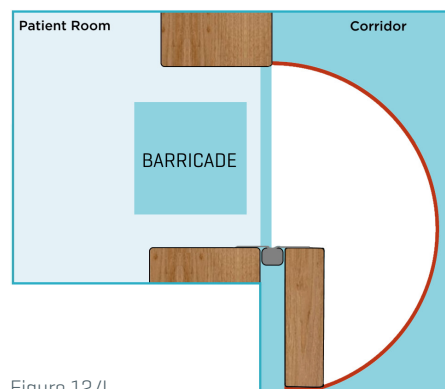

Figure 12.4
- **Outward Swinging Doors** – The simplest way to minimise or prevent a barricade risk is to swing the door outwards. This means that the door would swing away from the attempted barricade and allow staff easy access. This is ideal for doors where an outward swing is possible such as en-suite doors that swing into bedrooms however may not be suited to bedroom doors where an outward swinging door would potentially block a corridor or if swung outward at speed could potentially strike and injure anyone within the arc. Refer Figure 12.4.